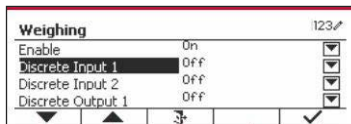

Figure 39
4. The Weighing submenu is now displayed. Select the list item and press the button corresponding to the ✓ icon to change the setting as desired. After completion of I/O setup, press the softkey corresponding to the → icon to return to the main application screen. (See Figure 39)